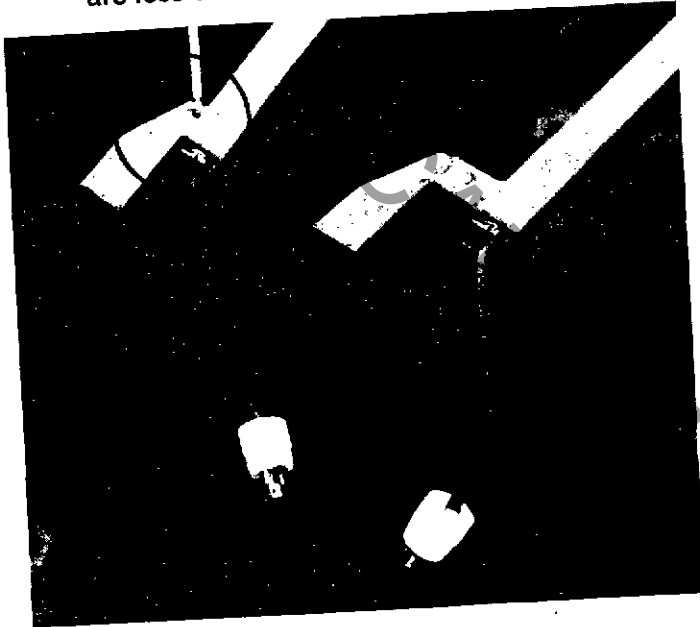

Fig. 41
- Note:* The 2 light sections to be installed on the side of the lower level steps are different from all the other light sections. The ends of the light posts that slide into the support slots are less offset than the other posts. (Fig. 41)